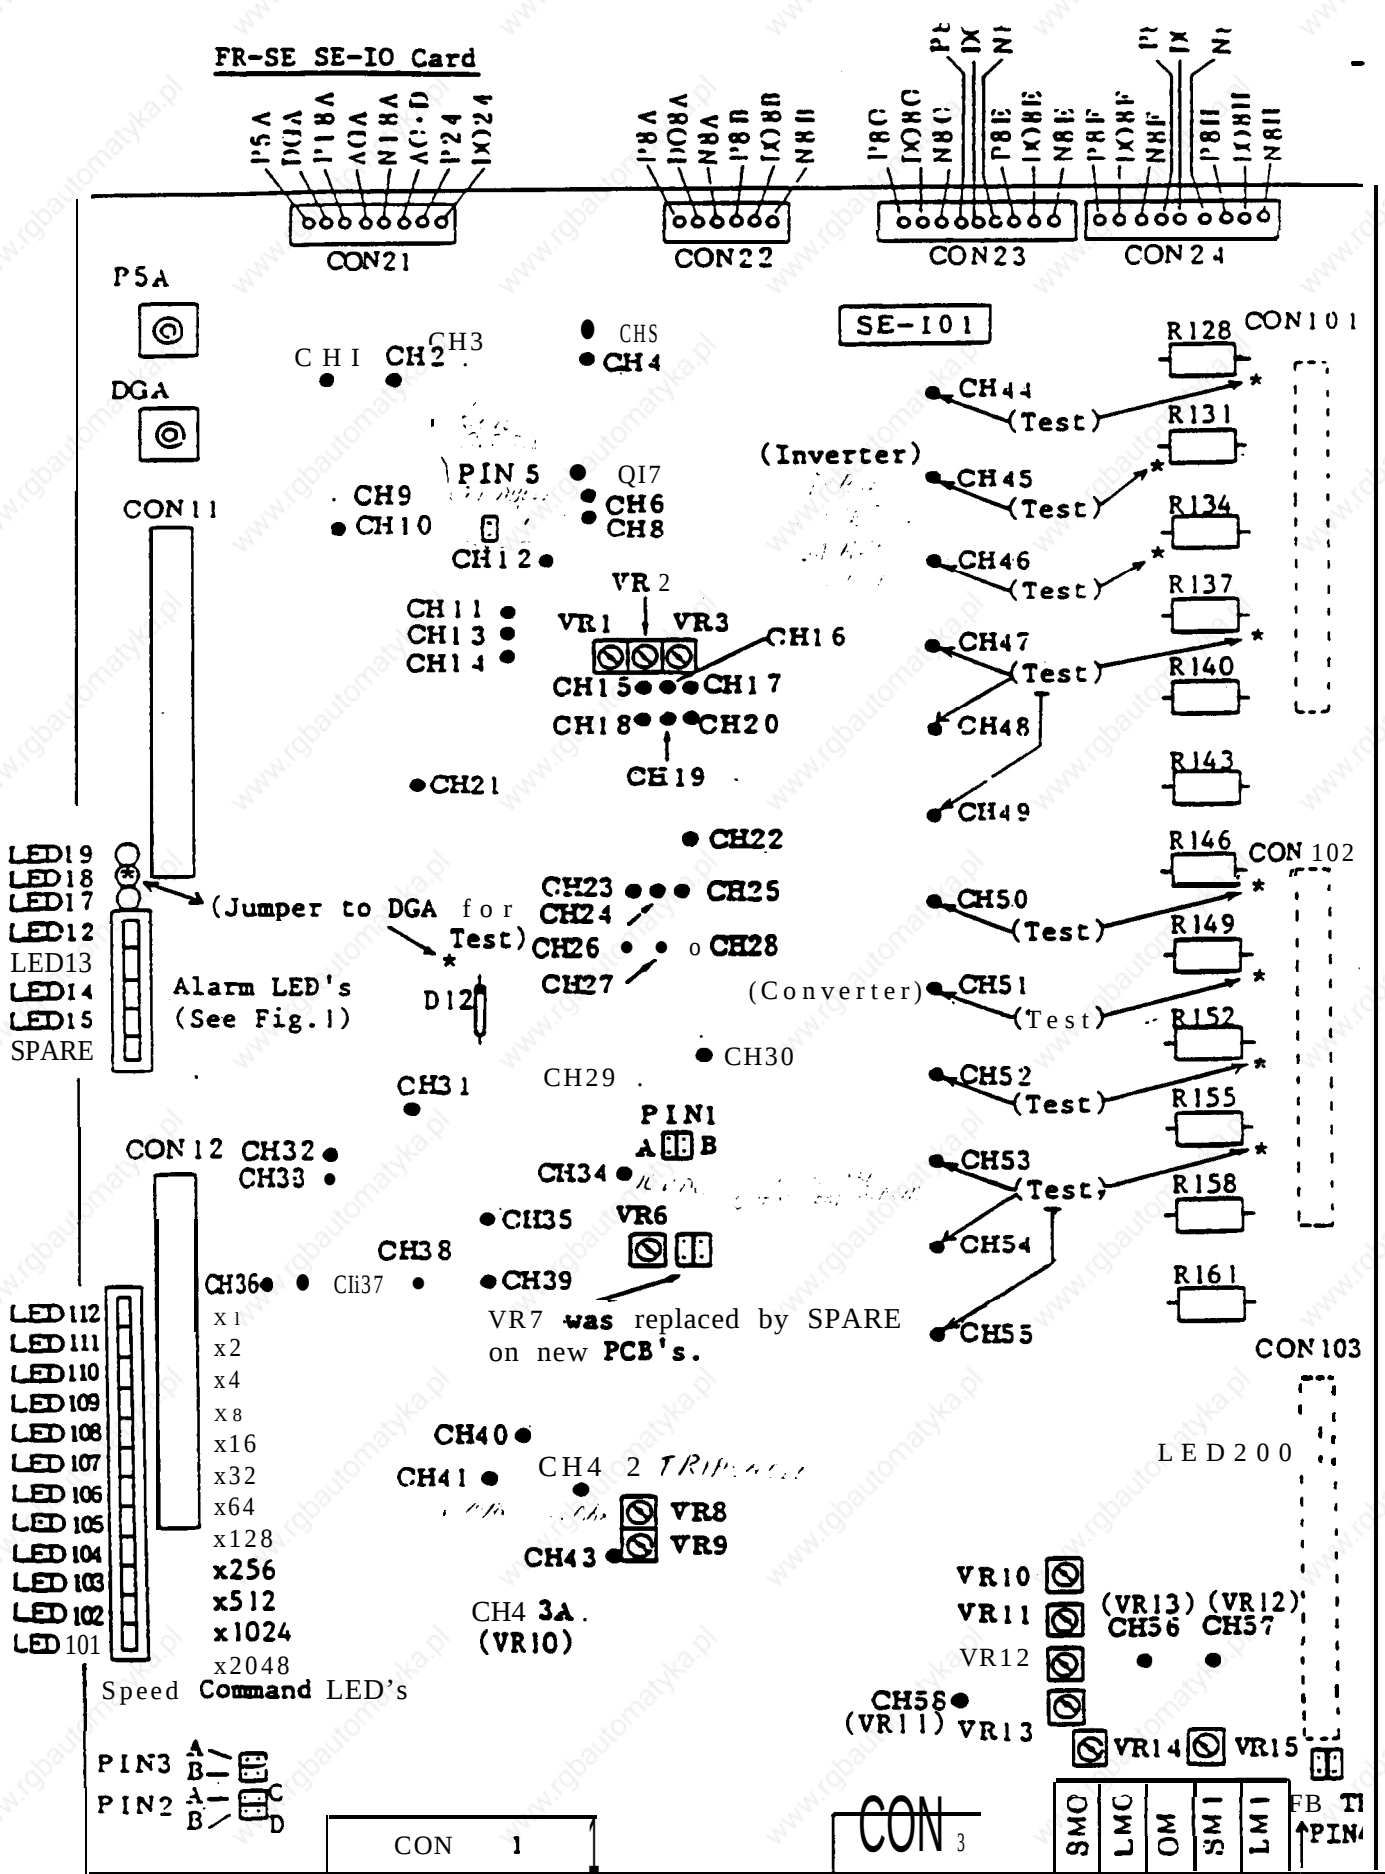

Figure 7
Refer to Figure 7 for location. (*) Factory set, don't change.
(5) SE-IO Card: Set shorting pins (PIN1 through PINS) the same as the original card. Do not make any adjustments other than those specified in the instructions. Refer to Fig. 7.
(6) Optional: Test base driver waveforms before restoring full power (CB1 OFF). This test should be performed if output transistors were damaged and replaced or suspected of being damaged. Refer also to Testing Output Transistors, Diode, and Capacitor. See Procedure for Checking Base Driver Waveforms.
(7) After installing FR-SE hinge panel please readjust the offsets for the DC current transformers. Refer to Current Transformer Offset Adjustment Procedure.
(8) Confirm full speed range in all gears FWD and REV.
(9) Confirm alignment of spindle at orient in machines that require it for mechanical operations such as ATC. This may involve measuring the spindle orient position relative to axis movement as specified by the machine manufacturer. Confirm orientation in each gear. (Including ATC.)
Disable **CB1** breaker trip alarm by inserting jumper (**FB**) on Pin 4 of SE-IO PCS. This is located on the lower right corner of the PCB and to the right of the **TB2 screw** terminal. Refer to lower right corner of Figure 7. A SPARE jumper strap can usually be found on the SE-CPU or SE-IO printed circuit boards.
(2) Adjust all **DCTC** offsets to 0v +/-5mv (Note: +/-10mv is acceptable). Refer to bottom of Fig. 7 for location of adjustments and check points.
(1) Before restoring power to the machine switch CB1 OFF. This prevents power from being applied to the output transistors. Disable breaker trip alarm by inserting jumper (FB) on Pin 4 of SE-IO Card. This is located on the lower right corner of the card and to the right of the TB2 screw terminal. Refer to lower right corner of Figure 7. A SPARE jumper strap can usually be found on the SE-CPU or SE-IO Cards.
(2) Set dip switch **SW6-2** (Open loop) OFF and press ST1 (Reset) on the SE-IO Card. Refer to Figure 7.
(3) Regeneration Transistor Check: (Converter)
1. Connect a **short** jumper wire between DGA and the cathode (top) side of **D12** in middle of SE-IO Card. See Figure 7.